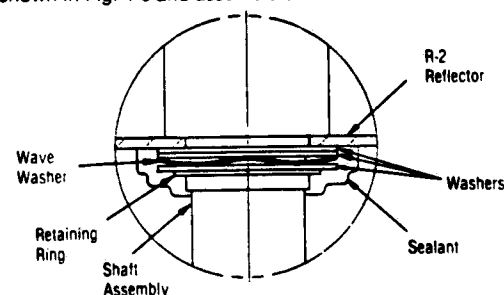

Figure 4-6. SECURING R2 REFLECTOR.
7. Orient washers, wave washer, and R2 reflector as shown in Fig. 4-6 and assemble over shaft.